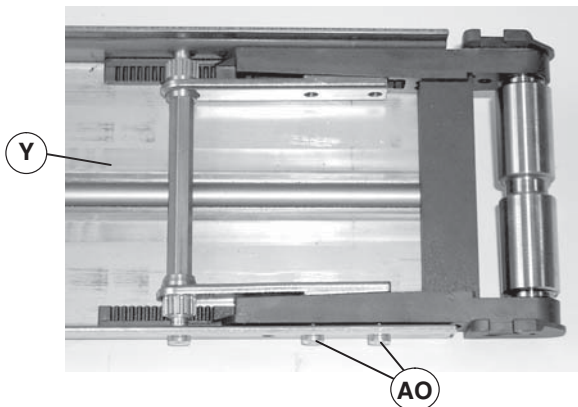

Figure 33
1. Remove two screws (Figure 33, item AO) on each side of conveyor.